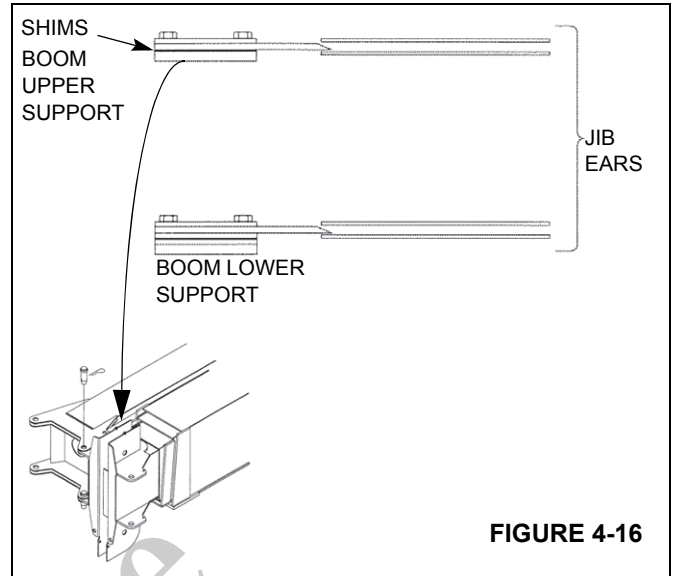

FIGURE 4-16
6. Slowly retract the boom until the jib ears are within 13 mm (0.50 in) of the ear assemblies on the first boom section. Observe the vertical alignment of the jib ears and ear assemblies and add or remove shims until the jib is supported by the jib ears. The jib will typically rest only on the upper support, Figure 4-16.